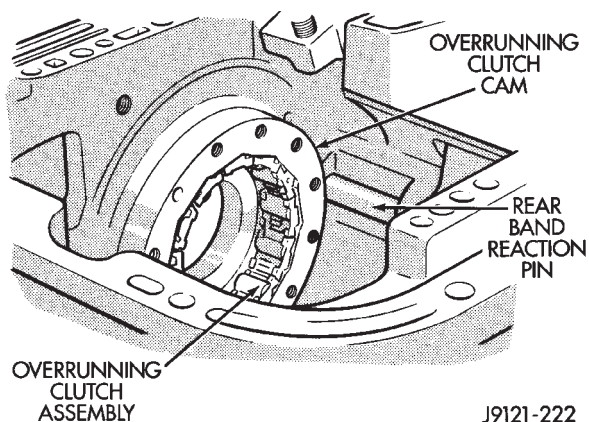

Fig. 29 Overrunning Clutch Assembly Removal
(41) Remove overrunning clutch cam and roller clutch assembly as a unit (Fig. 29). Turn cam back and forth and tilt it inward to remove it from case.